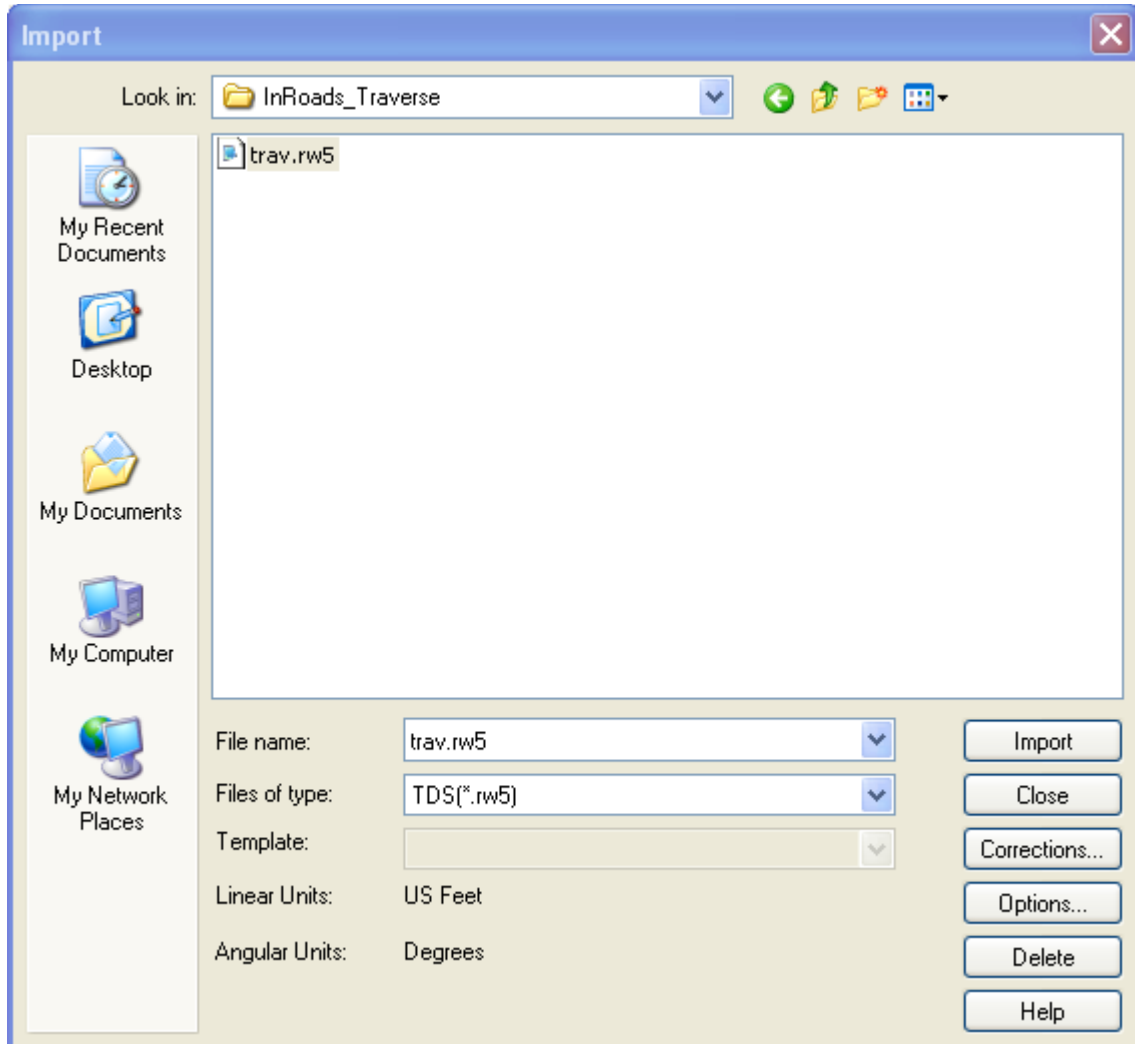

Figure 2-2 InRoads Import Dialog Box
- D. From the InRoads main menu bar select **File > Import > Survey Data**. The Import dialog box shown in Figure 2-2 will appear.